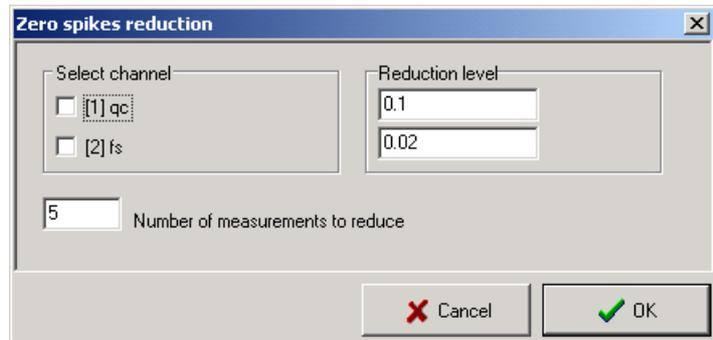

Fig. 4-19: Definition of the Zero Spike Reduction
- 6. Spikes in the point resistance and local friction channels can be edited in CPT-LOG under **Zero Spike Reduction**, as described in Fig.4-19.